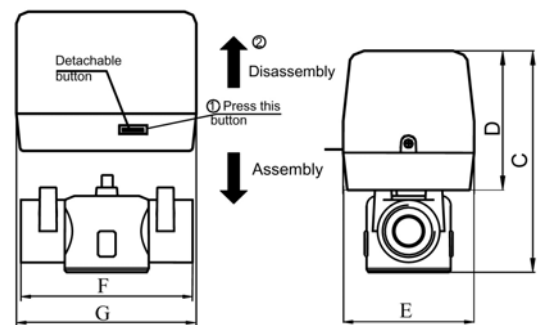

Figure. 1
## DIMENSIONS (Refer to Figure 1)
1. Assembly and disassembly of the actuator and valve body: as in Fig.1, fit the square axis of the valve body with the square hole in the actuator and insert a little (make sure that another axis won't touch the actuator), rotate the actuator or valve body, make another axis of the valve body aim at the corresponding hole in the actuator. Use a little strength to press the actuator, when hearing a "clatter", and then the assembly of the actuator and valve body is finished. When disassembly, press the detachable button on the actuator, and use a little strength to pull out the actuator according to the opposite direction of assembly, then it is detached.